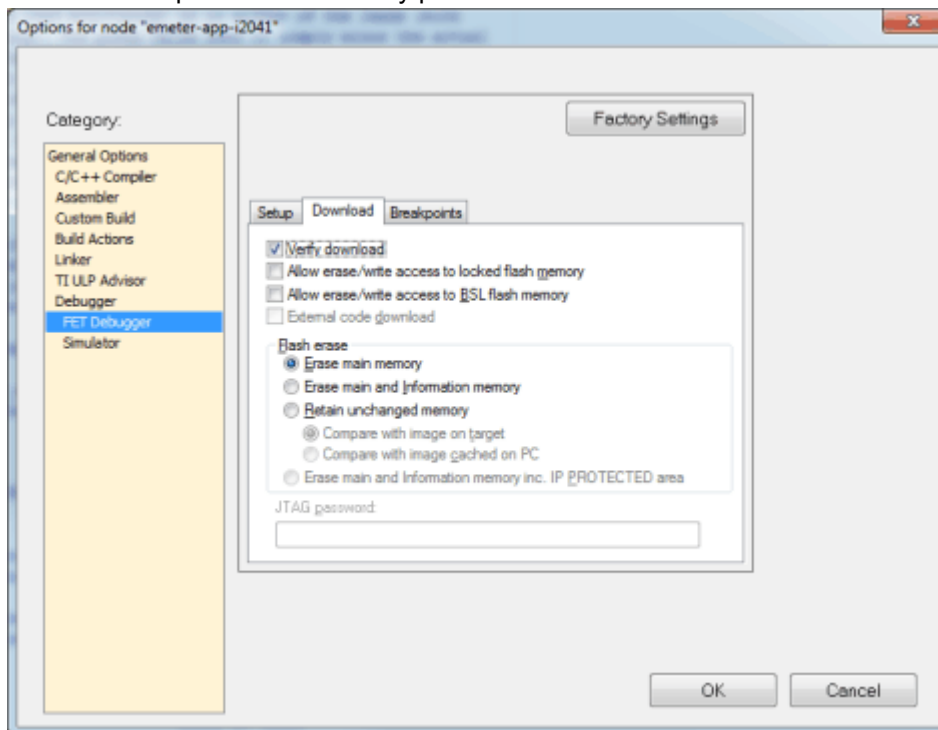

Figure 9-5. Download Options
- Select the Download tab. Under Flash erase, do not choose Erase main memory and Information memory; this option erases both sets of data and cannot be recovered. Instead, choose Erase main memory as the download option to preserve these factory parameters: system clock calibration, ADC calibration, and internal reference calibration (Figure 9-5). However, metrology calibration stored in the main memory, such as VGAIN, IGAIN, PGAIN, and so on, are always erased after downloading. Select Erase main memory as the option for download to preserve the factory parameters.